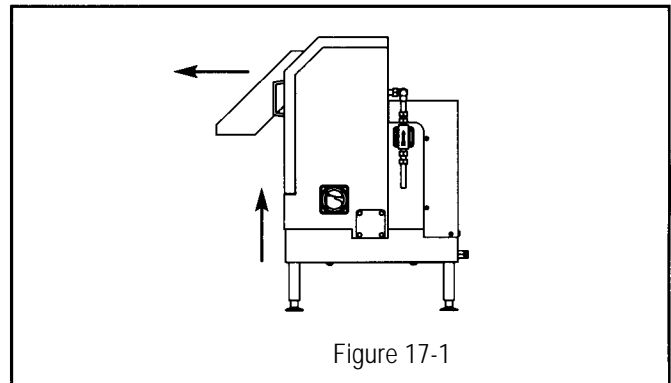

Figure 17-1
2. Holding both handles, remove discharge chute by tilting it upward (see figure 17-1).